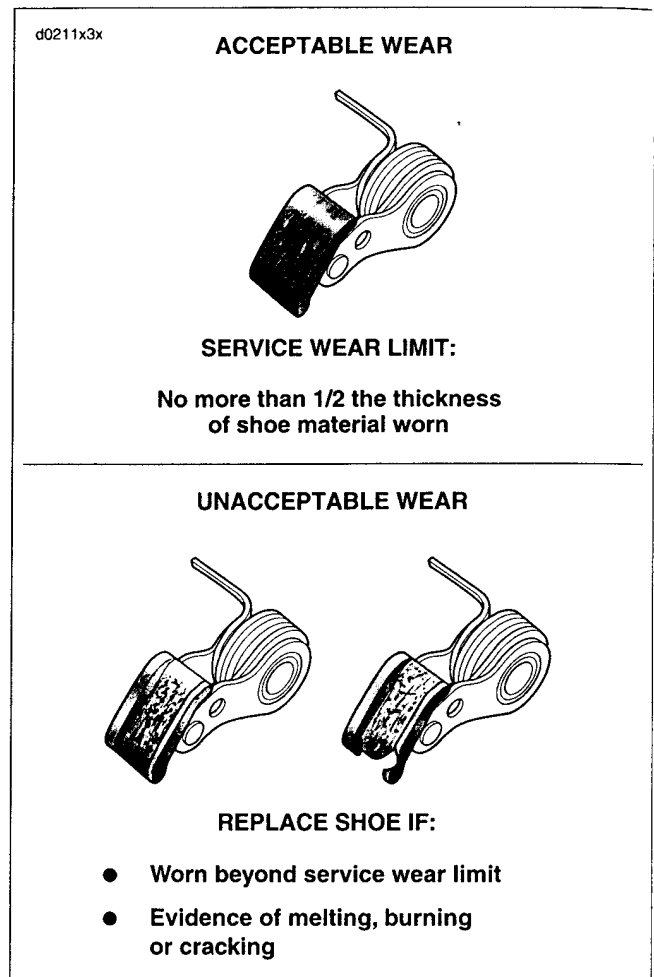

Figure 3-141. Cam Chain Tensioner Shoe Wear
3. Slide cam chain tensioner assembly from post disengaging spring pin from hole in cam support plate. Inspect tensioner shoe (1) using information in Figure 3-141.